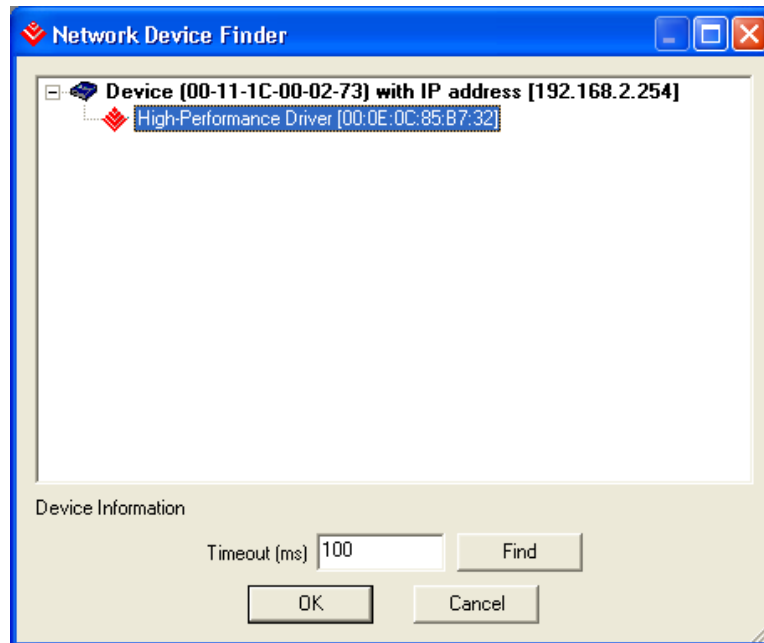

Figure 7: Network Device Finder Dialog
- **Detect**: Invokes the Network Device Finder dialog, shown in Figure 7, which searches the network for available LYNX Cameras. When the user selects one of the found GigE cameras, the camera will fill the IP Information section of the device page. The dialog detects devices in the following order: